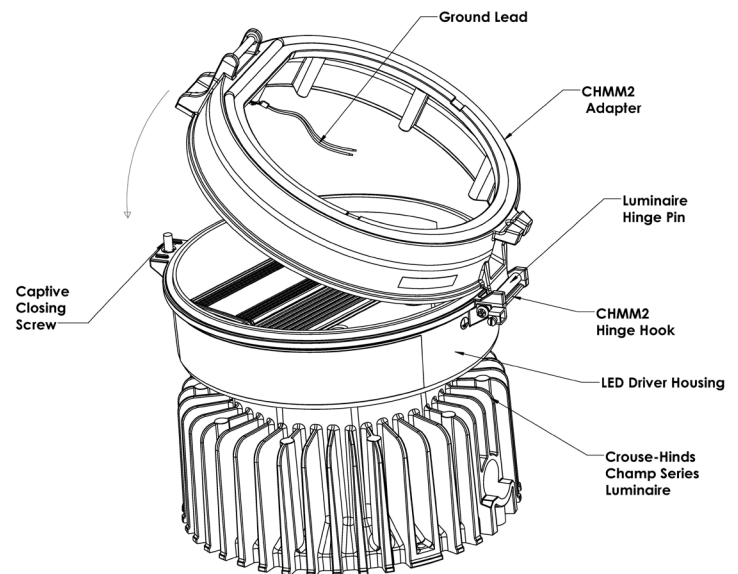

Figure 1
4. Install the CHMM2 Adapter onto LED driver housing of the Crouse-Hinds Champ® Series luminaire by capturing the luminaire's hinge pin inside the adapter hinge hook, as shown in Figure 1. Ensure the adapter is concentric to the luminaire as you clamp the adapter down. Thread the captive closing screw into the Adaptor such that the bosses on the Adaptor and driver housing are bottomed first and then torqued to 79 in.-lbs (8.9 N-m).